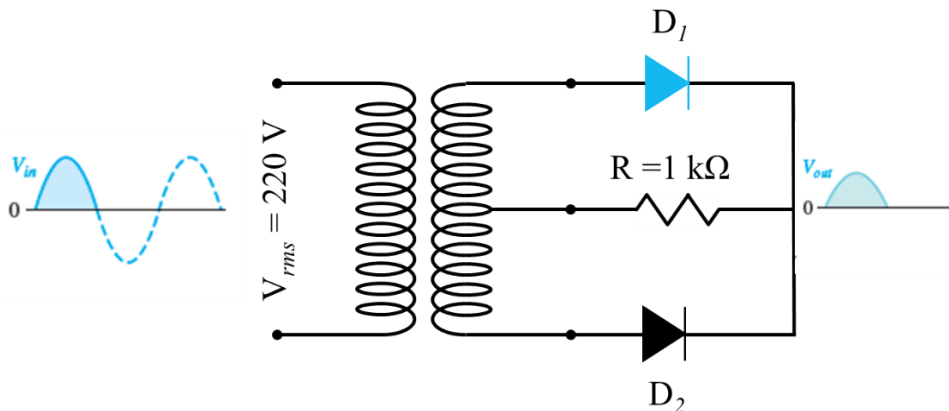

Figure 1: During positive half-cycles, D_1 is forward-biased, and D_2 is reverse-biased.
The circuit of a center-tapped full wave rectifier uses two diodes D_1 and D_2 . During the positive half cycle of secondary voltage, the diode D_1 is forward-biased, and D_2 is reverse-biased. Therefore, the diode D_1 conducts, and current flows through load resistor R_L , as shown in Fig. 1.
1. Connect the circuit as shown in Fig. 1 using a center-tapped transformer, two diodes, a $1k\Omega$ resistor (R_L)